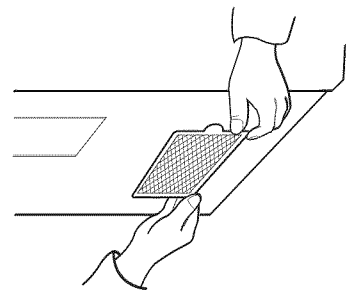

Figure 34
7. To install the grease filter: Slide it into the slide slot, then push up and toward oven center to lock. See **Figure 34**.